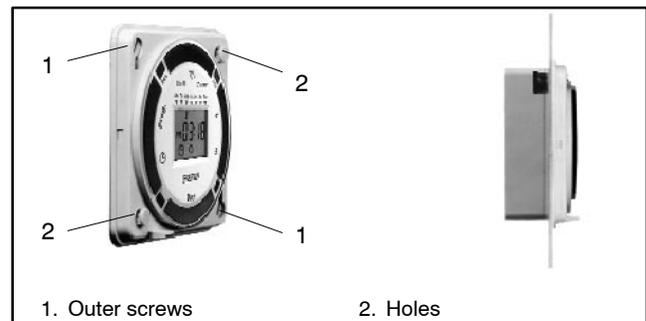

Figure 21 Mounting Flanges
3. Insert plugs into the unused holes. See Figure 21.